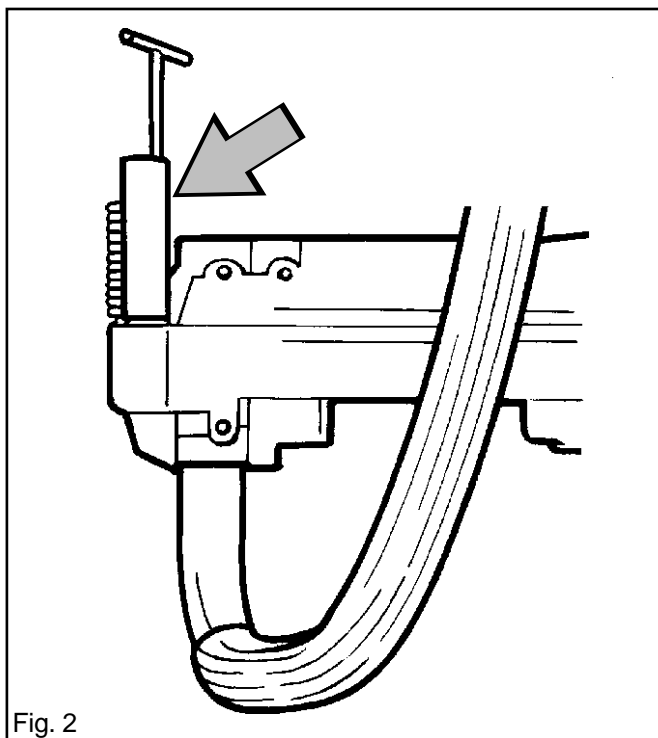

Fig. 2
3. Detach the springs from the tank unit with service tools 502 52 18-01 and 502 52 18-02. See fig. 2.